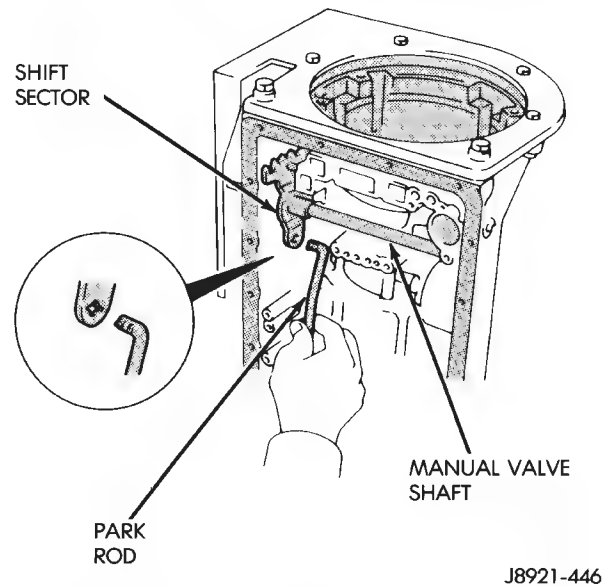
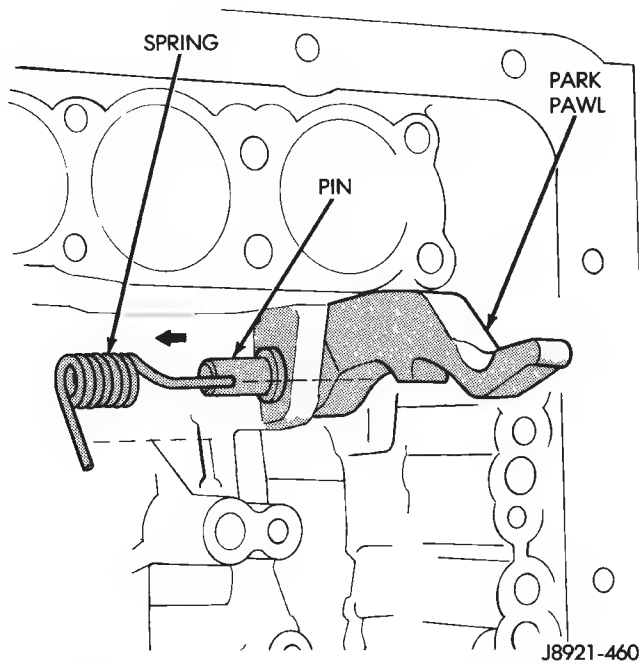

Fig. 34 Removing/Installing Park Rod Adapter Housing Seal Replacement
Fig. 35 Removing/Installing Park Pawl, Pin And Spring
- (3) Remove park rod from manual valve shaft sector (Fig. 34).
- (4) Remove park rod.
- (5) Remove park pawl, pin and spring (Fig. 35).
- (6) Examine park rod, pawl, pin and spring. Replace any component that is worn or damaged.
- (7) Install pawl in case. Insert pin and install spring. Be sure spring is positioned as shown in Figure 35.